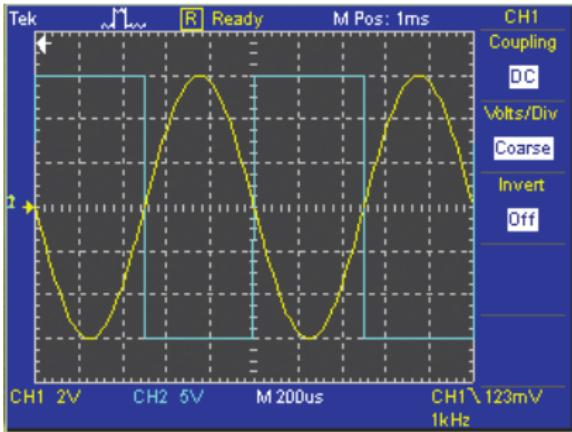

Figure 7: Inverting comparator converts sine waves to square waves
- ▶ Fig. 7 shows the input sine wave and the output square wave for an inverting comparator with a threshold of 0 V.